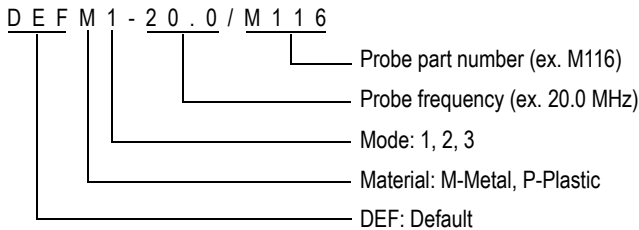

Figure 5-3 Selecting a default single element transducer setup
- c) In the **DEFAULT** screen for the type of probe you are using (see the example shown in Figure 5-3 on page 55), highlight the setup in the list of available default setups for the transducer that you are using.